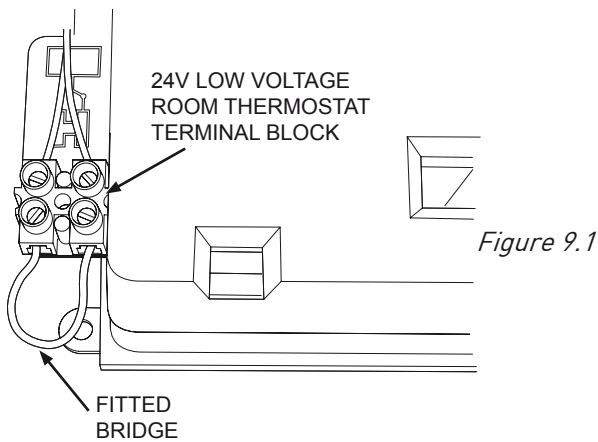
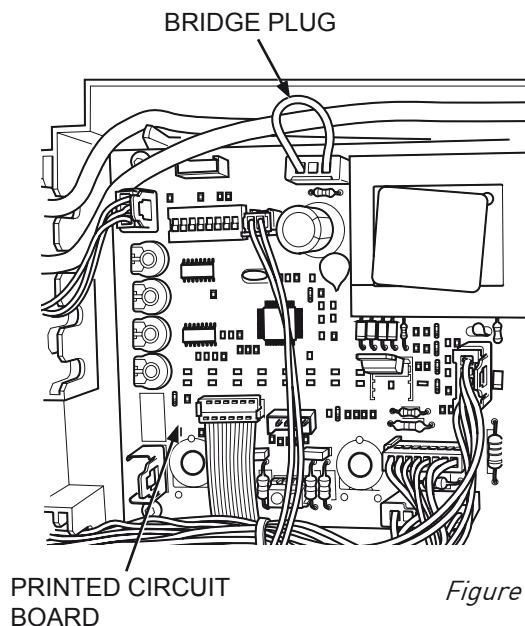

Figure 9.1
Figure 9.2
Warning: On no account must any external voltage be applied to any of the terminals on the heating control connection plug. Figure 9.1
9.4 The low voltage room thermostat terminal block is located to behind of left side of the plastic cover (Figure 9.1) On connection of a voltage free room thermostat to the boiler, the factory fitted bridge across the room thermostat terminal connectors must be removed. If a mains voltage thermostat is to be used please refer to Figure 9.2.
9.5 Mains powered thermostats must be connected directly to the mains circuit board as indicated in Figure 9.2 Cut the existing link and connect the wires into the thermostat circuit.